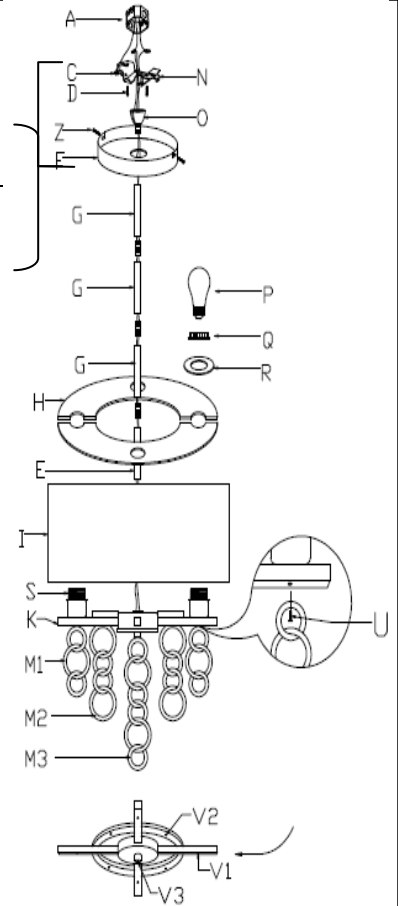

Fig.1-1
- Install the shade (I) onto the socket holders. Align the diffuser (H) to the socket holders (S) and secure with washers (R) and screw shell (Q). The diffuser should set as show in Fig.1-1 (top view).
- This fixture includes 1 x 6" rod 3 x 12" rods. Determine the desired hanging height and attach rods (G) to fixture body (K). Feed the fixture wires carefully through each rod during assembly.
- Next place canopy (F) over rods (G) and thread hanger ball (O) to rod (G). Please remove the nipple if installing with one 6" rod only.
- Attach the circular plate (N) to the junction box (A) with screws (D) (size: #5/32"-32\*0.5"L.).
- While holding the fixture body, install the fixture into the mounting plate (N) by tilting at a slight angle so that the hanger ball (O) slips into the mounting plate (N) as shown. Align the notch in the hanger ball (O) to the tab on the mounting plate (N) to prevent the fixture from turning.